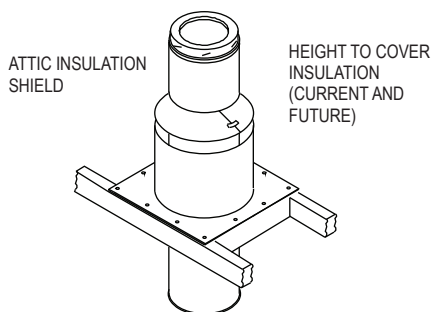

Figure 13
8. Install Attic Insulation Shield: The Attic Insulation Shield is required where an unenclosed chimney passes into an unoccupied space. Its purpose is to prevent current and future combustibles (debris, insulation, etc.) from getting too close to the chimney (**Fig.13**). An installed Attic Insulation
B5. Secure the Attic Insulation Shield to the top of the framed opening using at least (3) 8-penny nails or (3) #8, 1-1/2" wood screws per side (**Fig.13**).